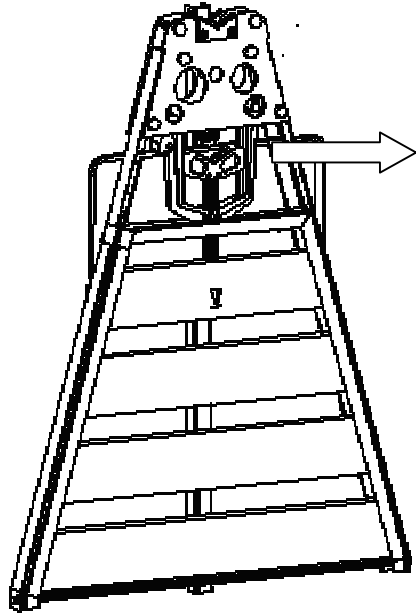

Fig. 2
1. Release the side support screws (9), remove the head (1) and then tighten the screws (9) again (see Fig. 2).